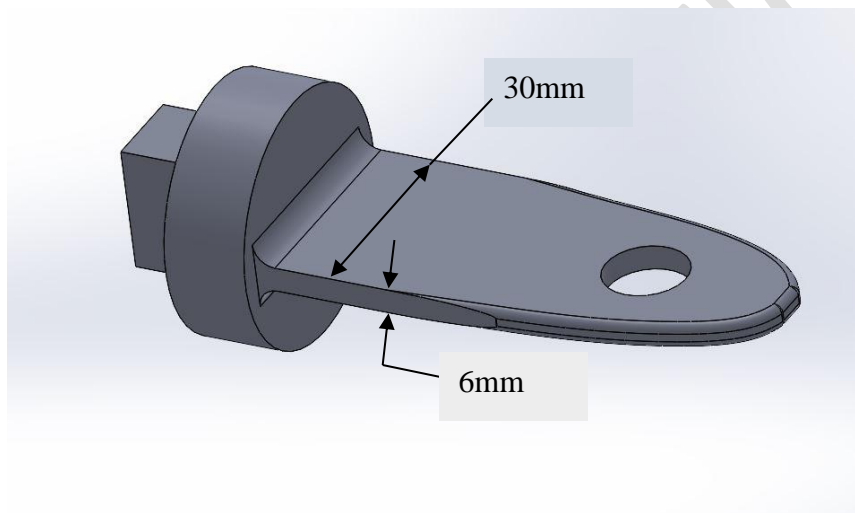
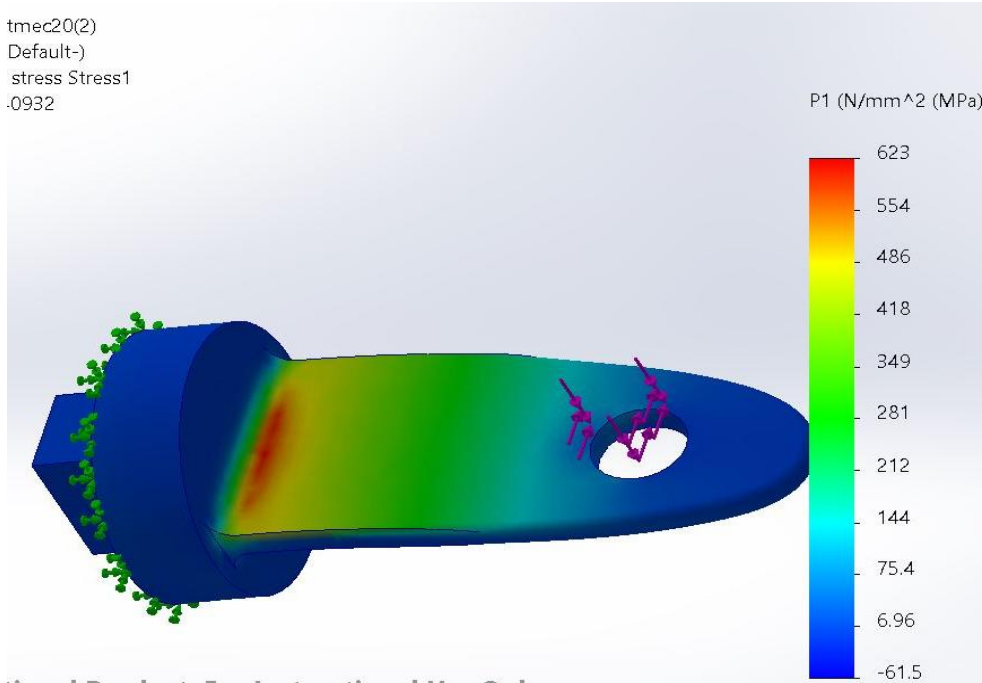
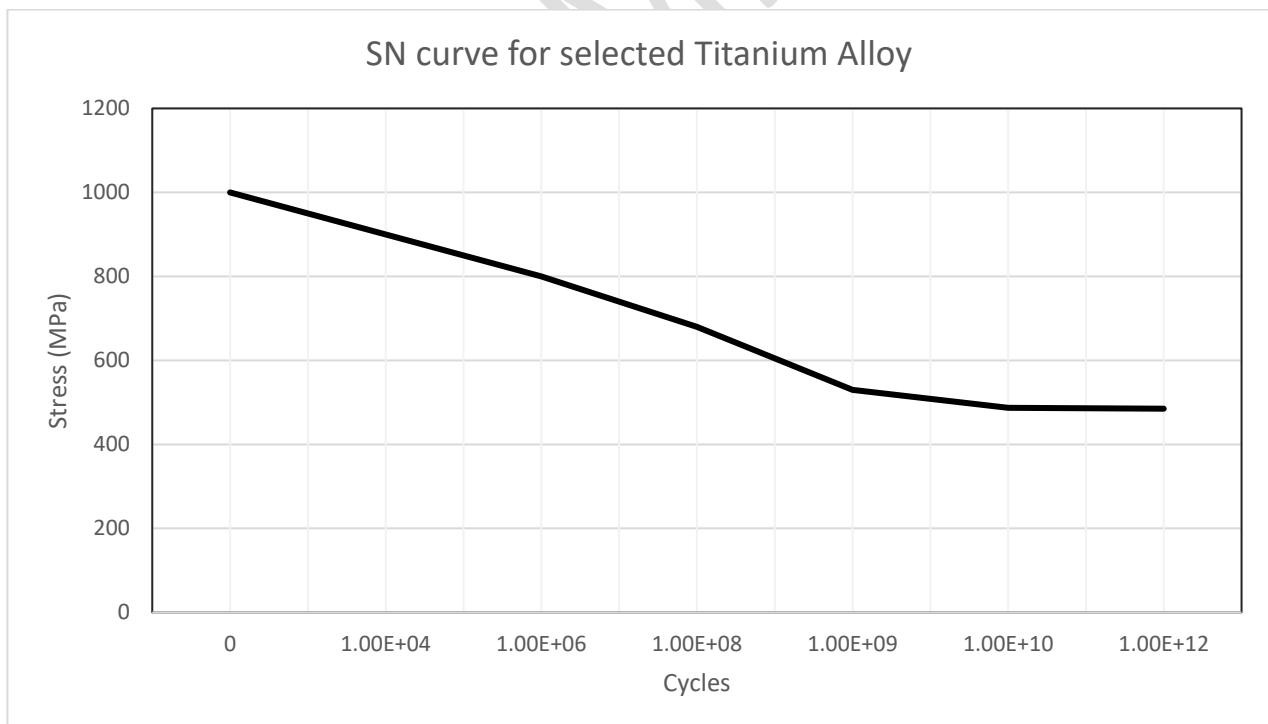

Fig Q5a Schematic of the link
Fig Q5b FEA plot of the Principal stress under an in plane moment of 80KNmm
Fig Q5c- S-N Curve for material used, R=-1
a) An aerospace grade titanium alloy link connection is shown in Fig Q5a as well as its S-N curve in Fig Q5c. Take the Young's modulus as 104 GPa and ν as 0.3 for this material. The component is CNC manufactured. It is also expected that the component under its normal usage would be under repeated cyclic loading with a maximum bending moment of 80kNm acting against the thickness dimension with a lower load of 20kNm. A finite element plot of the maximum Principal stress is shown in Fig Q5b. The material has notch sensitivity factor $q = 0.75$, hence, estimate the predicted life of the component under this condition.